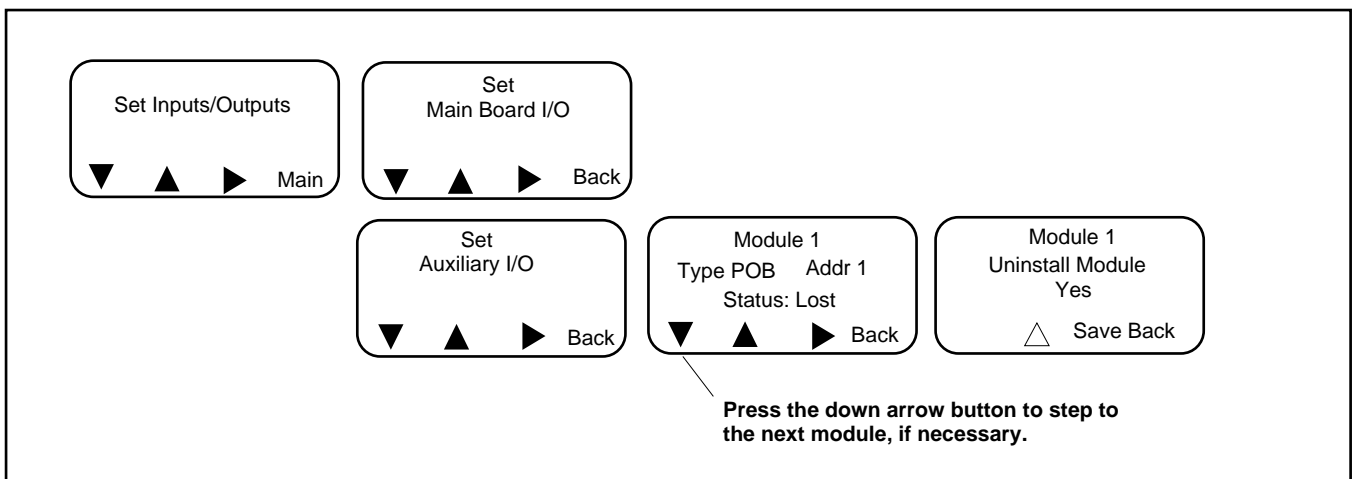

Figure 25 Uninstall Module
5. Navigate to the Set Auxiliary I/O menu. See Figure 25. Press the right arrow button to see the status of module 1. Press the down arrow to step to the next module, if necessary, until the menu shows Status: Lost.